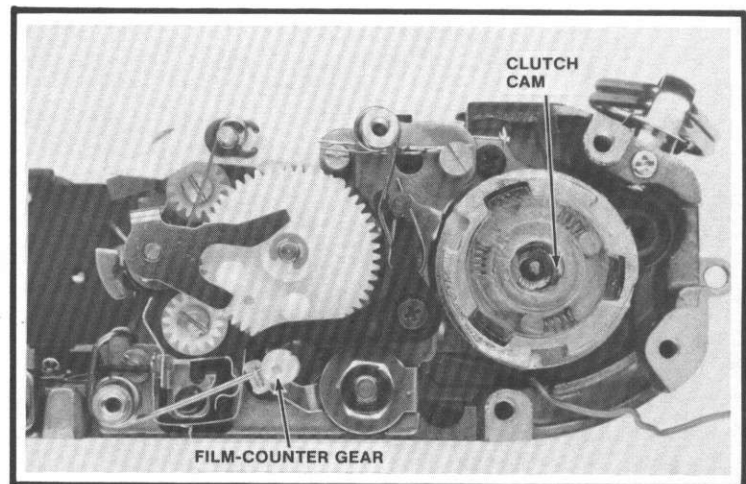
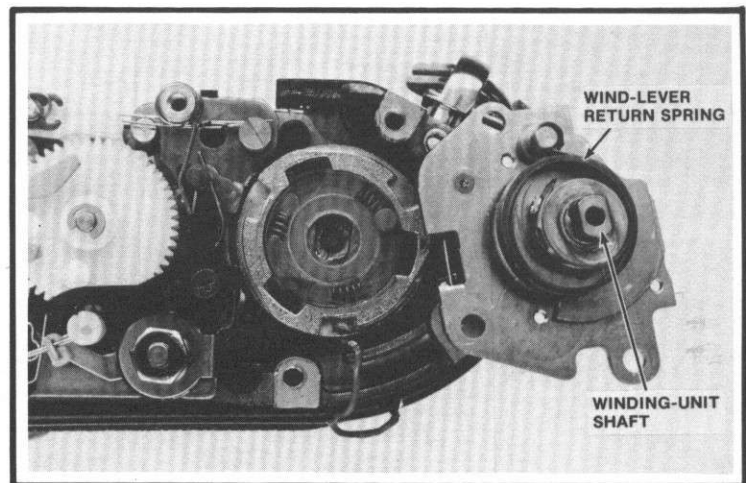

Figure 75
Figure 76
9. Push the first-curtain brake lever toward the back of the camera. Then seat the film-counter gear within its bearing hole as shown in Fig. 75. Note the position of the notch in the top section of the film-counter gear. After you replace the counter mechanism, you may have to reposition the film-counter gear to time the notch to the counter teeth. Push the first-curtain brake lever toward the shutter to hold the film-counter gear in place.
10. Check the position of the clutch cam in the center of the one-way clutch, Fig. 75. The flat sides of the hole in the center of the clutch cam should be parallel with the ends of the camera body; the clutch cam is then in the proper position to receive the shaft of the winding unit, Fig. 76. If necessary, you can turn the clutch cam in a clockwise direction. Hold down the retaining plate at the top of the one-way clutch to prevent the springs and rollers from dislodging.